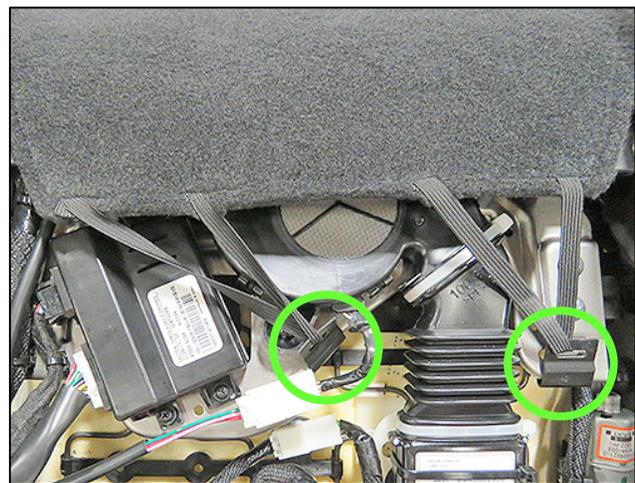

Figure 32
42. Reattach the seat back flap J-clips to the seat frame as shown in Figure 32.